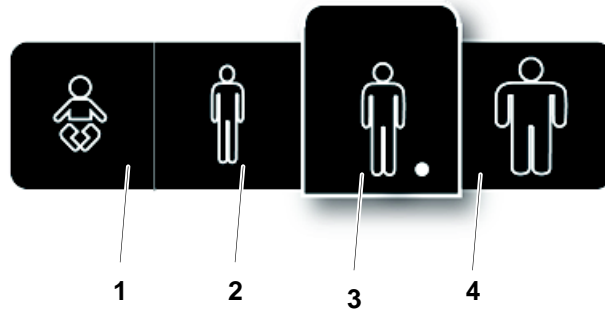

Fig. 3-13 Patient size selection
*Patient Size* is adjusted by pressing the *Patient size selection button*. A pop-up window according to **Fig. 3-13** will open and show available patient sizes.